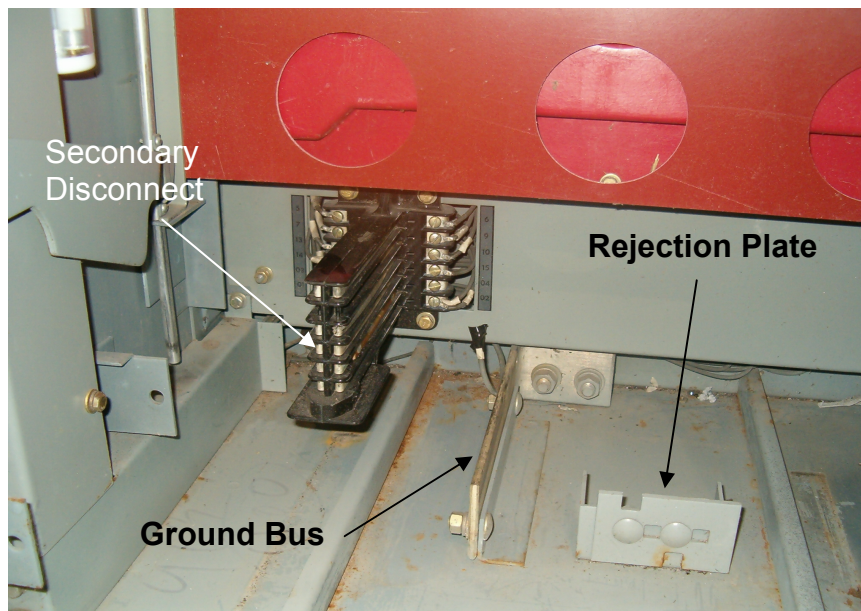

Figure 4-2 Stationary secondary disconnect
- Secondary Disconnects: the disconnects that connects the control power (Figure 4-2.)
- Ground Bar: the ground connecting point to the breaker frame (Figure 4-2).
- Rejection Plate: prevent racking the wrong breaker into the cubicle (Figure 4-2).